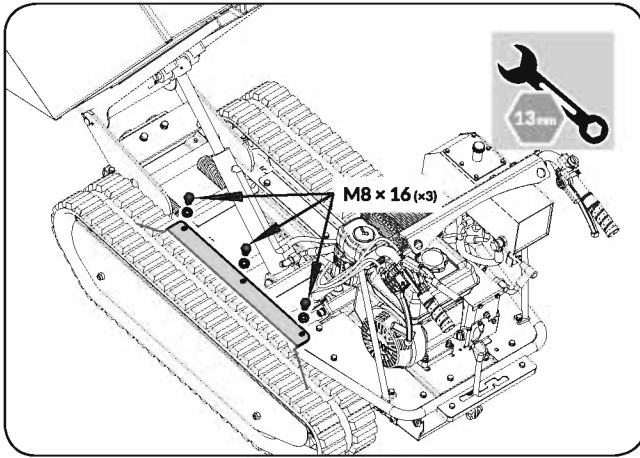

Figure 11b
- Remove the three M8×16 bolts and washers that fix the track protection guard. (See **Figure 11b**)